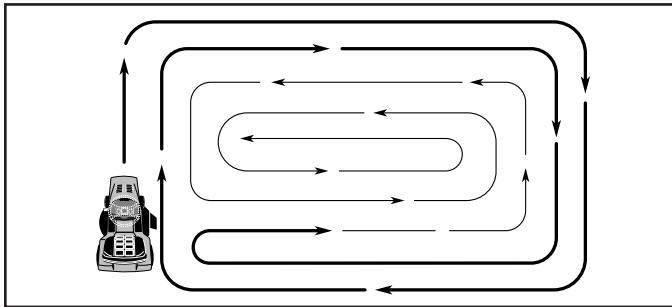

Fig. 13A
- When mowing large areas, start by turning to the right so that clippings will discharge away from shrubs, fences, driveways, etc. After one or two rounds, mow in the opposite direction making left hand turns until finished (See Fig. 13A).